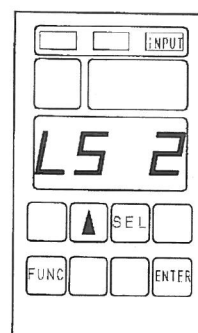

Fig. 5.1 (2)
- (4) Press [▲] several times "2" the display panel. (Fig. 5.1 (2))
- (5) Numeric display will blink, [ENTER] key press and light the key once. (Fig. 5.1 (2))